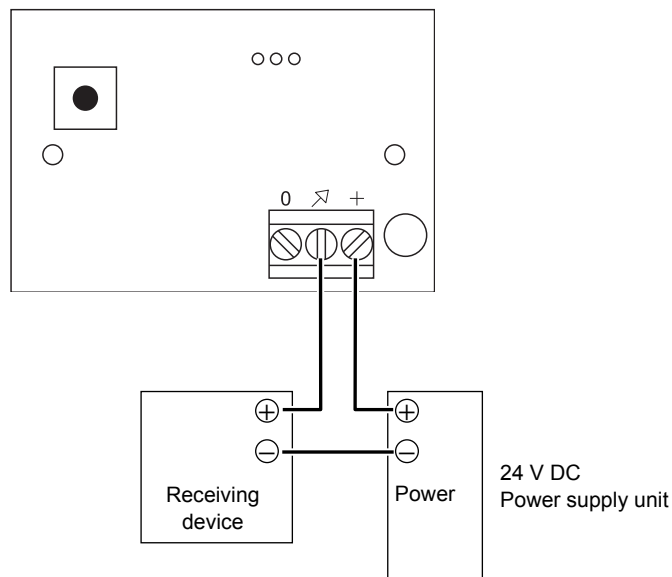

Figure 6 Wiring between receiving device and power supply unit
- (1) Loosen the screw on the surface to open the front cover.
- (2) Connect the wires as shown in figure 6.